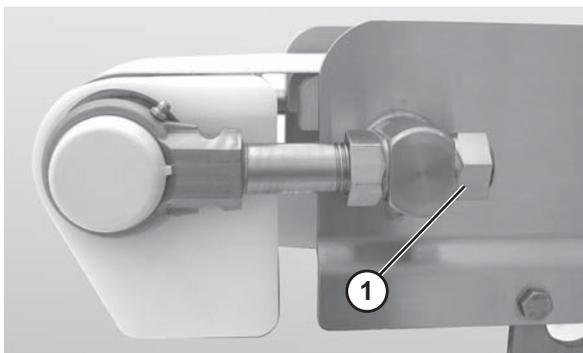

Figure 51
- Loosen the back nuts (Figure 51, item 1) on both sides of the idler tail shaft.